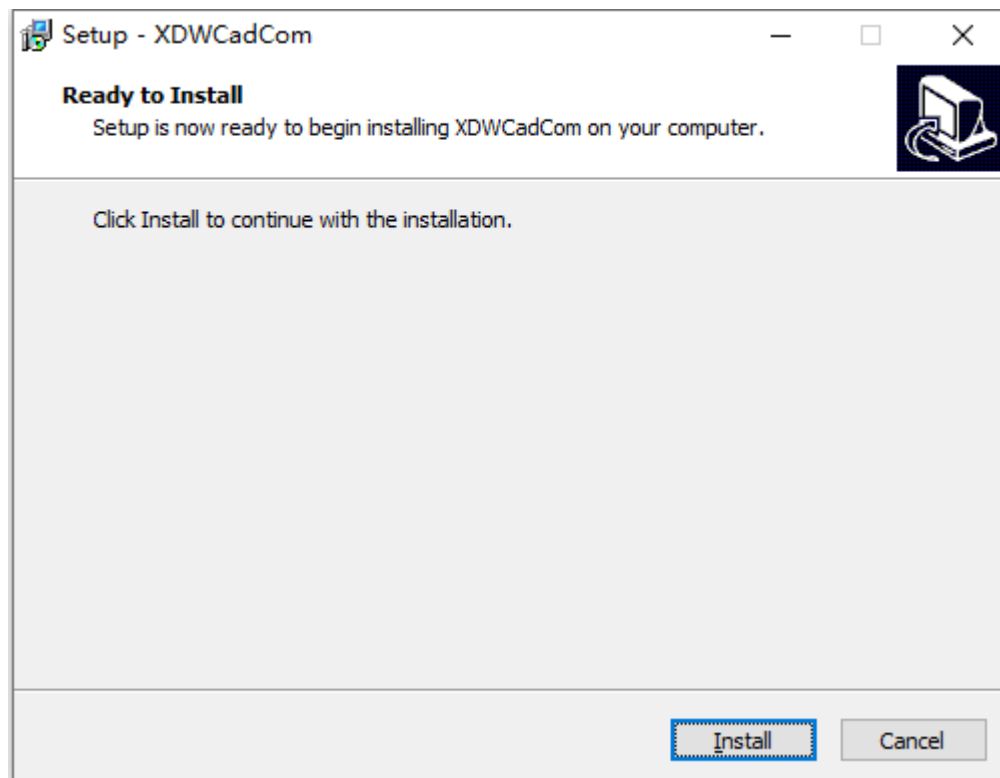

Figure2.2-10
(12) The installation dialog pops up, click Install to start the installation. As shown in Figure 2.2-10: